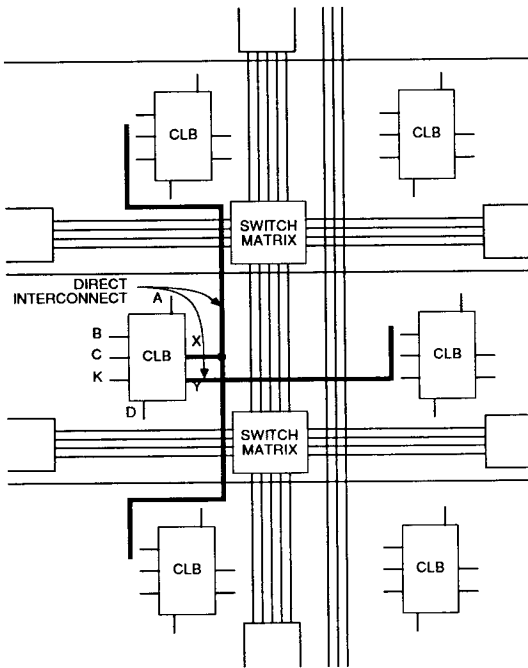

Figure 9. Direct Interconnect
Direct interconnect, shown in Figure 9, provides the most efficient implementation of networks between adjacent logic or I/O blocks. Signals routed from block to block by means of direct interconnect exhibit minimum interconnect propagation and use minimum interconnect resources. For each Configurable Logic Block, the X output may be connected directly to the C or D inputs of the CLB above and to the A or B inputs of the CLB below it. The Y output can use direct interconnect to drive the B input of the block immediately to its right. Where logic blocks are adjacent to I/O blocks, direct connect is provided to the I/O block input (I) on the left edge of the die, the output (O) on the right edge, or both on I/O blocks at the top and